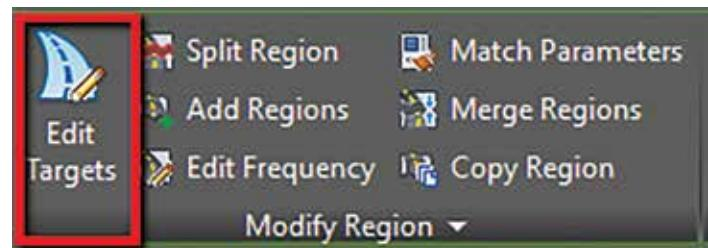

Figure 7
12. From the contextual ribbon for said corridor, select Edit Targets from the Modify Region panel (Figure 7).